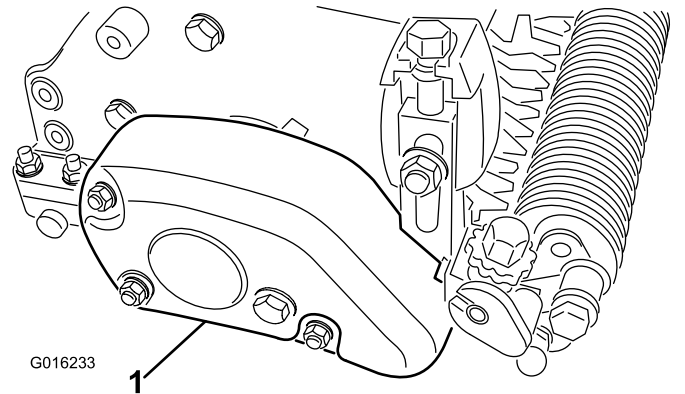

Figure 29
1. Remove the belt cover from the groomer housing (Figure 29).